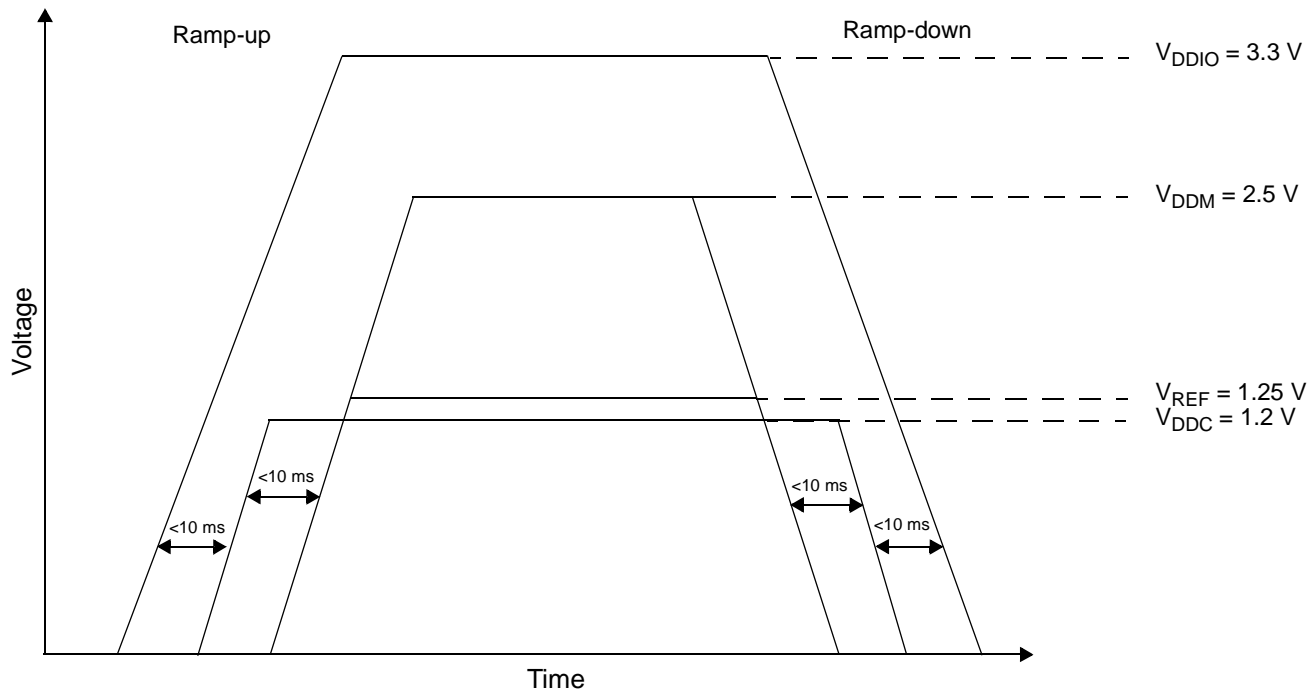

Figure 32. Voltage Sequencing Case 3
- Refer to **Figure 32** for relative timing for Case 3.